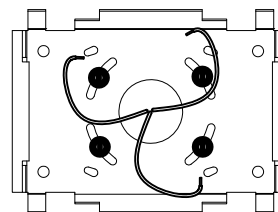

FIGURE. 4
4. PLACE GASKET OVER JUNCTION BOX OPENING. SECURE LUMINAIRE MOUNTING PLATE (SUPPLIED) TO JUNCTION BOX TEMPORARILY USING JUNCTION BOX SCREWS. MAKE SURE MOUNTING PLATE'S LONGEST SIDES ARE RUNNING HORIZONTAL, NOT VERTICAL. SEE FIGURE 4.